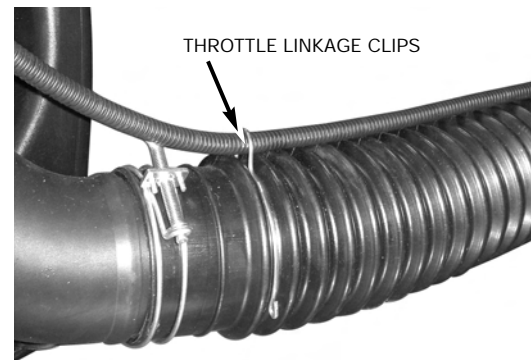
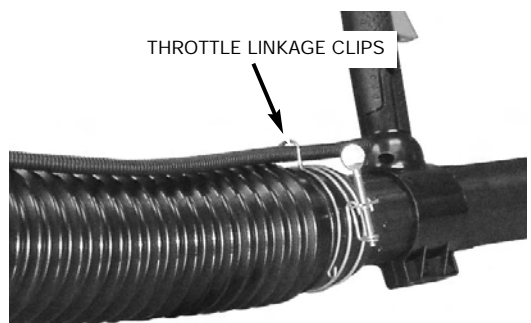

Fig. 5
Fig. 6
3. Attache throttle linkage clips (# 24-know your blower)- to both ends of the flex tube. ( See Fig. 5 and Fig. 6)